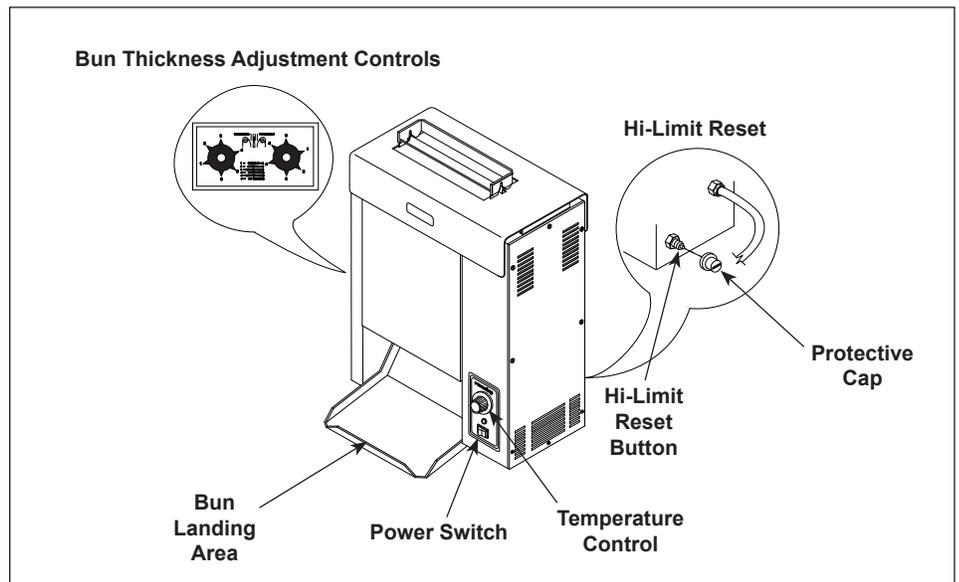

Figure 3. Toaster Controls
2. Turn the power on (Figure 3).
5. Toasted product will drop into the bun landing area (Figure 3).
A Hi-Limit Control turns off electrical power to the heater if the unit overheats. To reset this control, allow 10-15 minutes for the unit to cool down, Remove the Protective Cap, and fully press the Reset Button located at the rear of the unit (Figure 3).